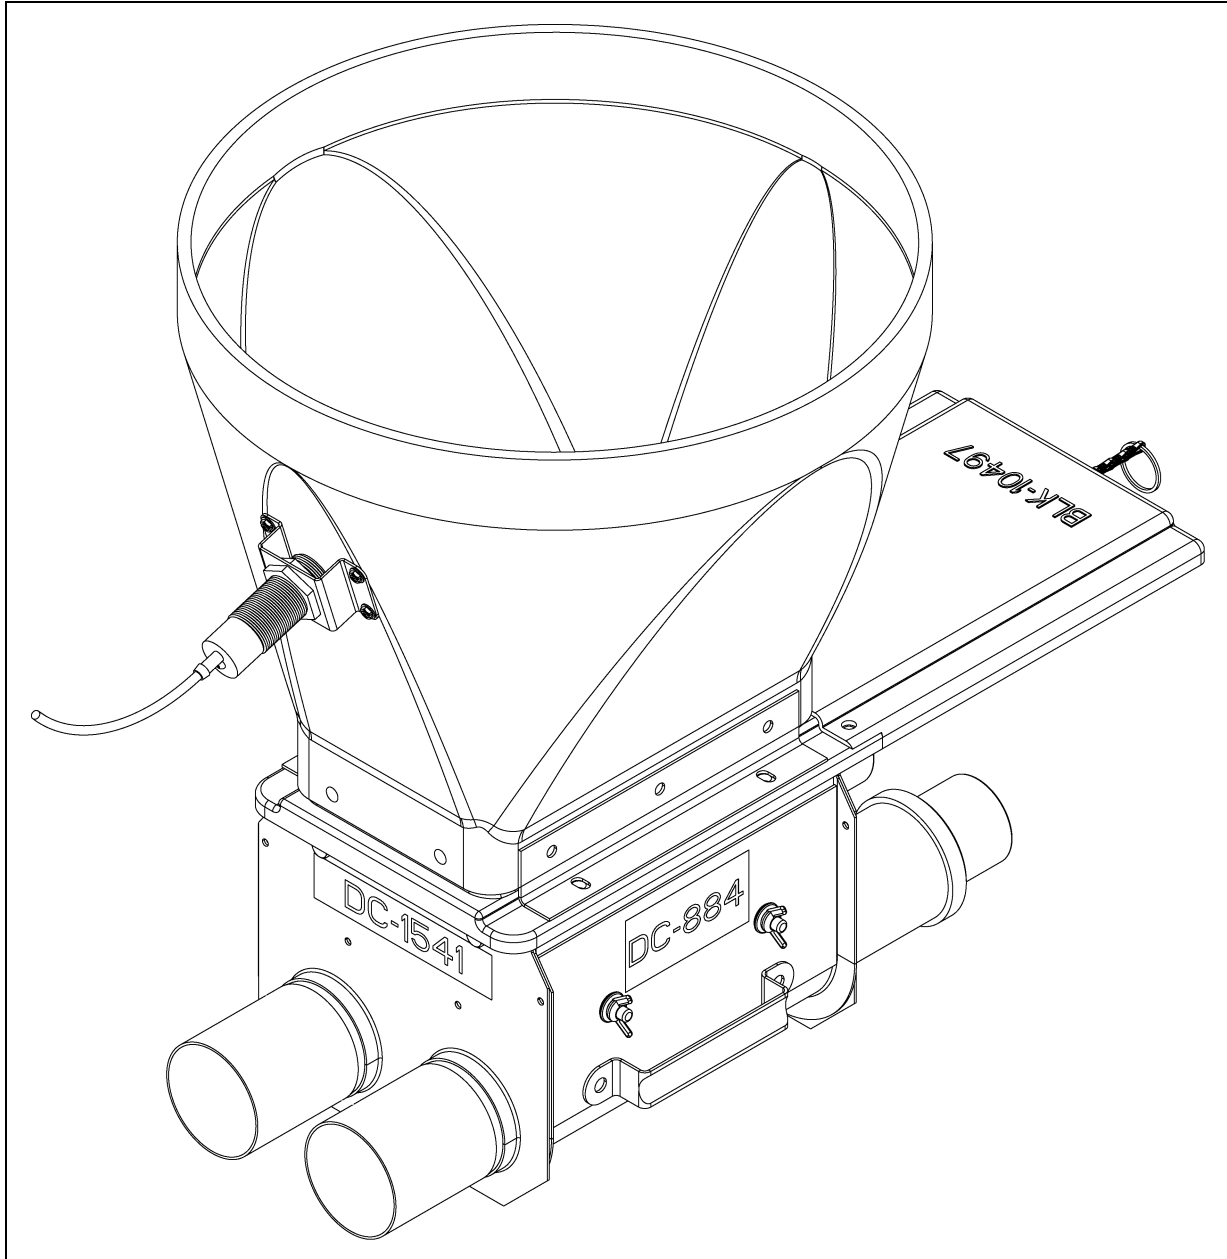

Figure 5B *Location of Proximity Switch for Single Boot*
2. Attach the Proximity Switch and Mounting Bracket Kit (FLX-5207) to the plastic boot as shown in Figure 5B, using four (4) #10-16 HWH SDS screws provided in the kit.